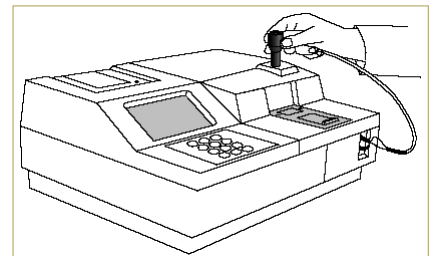

Figure B-7: Pipettor placed in holder
5. Place the pipettor in the holder on top of the analyzer (Figure B-7). Make sure the connection leads are not kinked or trapped under the VetTest analyzer. Trapped tubes can lead to inaccurate amounts of sample being dispensed onto test slides.